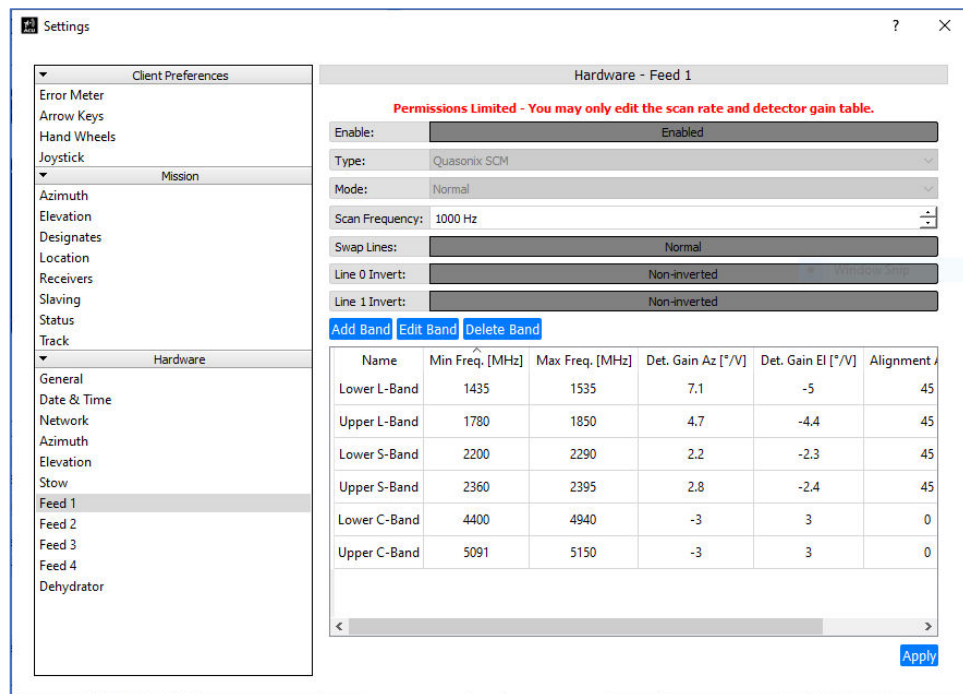

Figure 52: Hardware, Feed 1
In the example shown in Figure 52, the Quasonix standard Single Channel Monopulse (SCM) electronically scanning multiband (L, S, and C) Tracking Feed parameters have been configured.
For example, Feed 1 would save the parameters for the provided, typical SCM feed assembly (as shown in Figure 52), while Feed 2 would contain the parameters for an additional feed, such as an offset, dish mounted, ACQ-AID.
In Figure 52, the settings were selected and set for a standard Quasonix tri-band feed (L/S/C bands). The Quasonix SCM feed was selected from the Feed (1) Type, drop down menu. The (feed modulation) Mode is set to Normal, and the feed Scan Frequency was set to 1000 Hz (typical factory scan rate setting). The scanning frequency can be adjusted from 100 Hz to 2000 Hz using the up/down arrows.